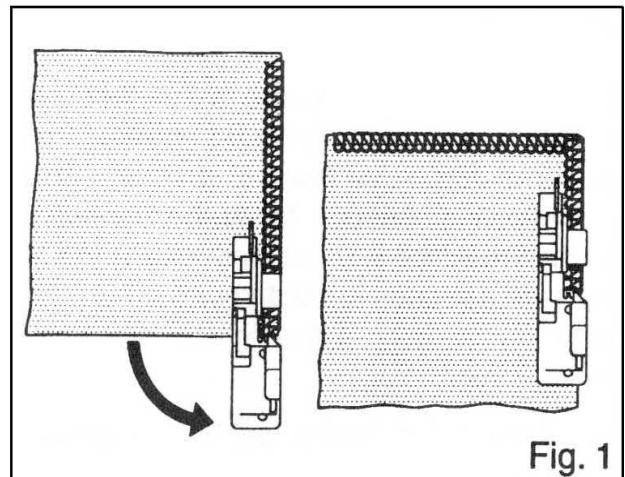

Fig. 1
Pull out the convertor as shown in Fig.1.
2.After finishing , reset the stitch finger in its place. Please ensure inserting it deep as illustrated in Fig 1.
Turn it towards "5" if fabric edge curls while sewing.(Fig.1)
3. Turn the fabric, lower the presser foot and begin stitching in the new direction. Fig. 1.
1. Snap the detachable cord guide, in your accessory set onto the thread guide pole (Fig.1).
2. Place a "filler" cord, such as a crochet cotton, gimp, wool, knitting yarn, or shirring elastic at the rear of the machine spool pin. Pass the cord through the cord guides (1) and (2) and then through the left needle thread guide (3). See Fig. 1.